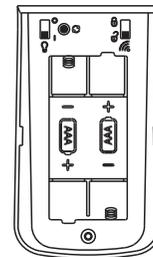

Figure 17
- Remove the battery cover from the remote control (H). Install 2 AAA batteries (not included). Replace the battery cover. (Figure 17)